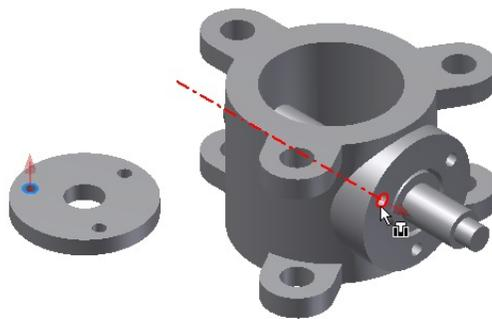

Figure 9-66 Selecting the edges to apply the **Insert** constraint
6. Choose the **Insert** button from the **Type** area. Select the circular edge of one of the smaller holes on the top face of the Retainer as the first edge, see Figure 9-66.
7. Select the circular edge of one of the smaller holes on the front planar face of the circular feature on the Body to apply the constraint, see Figure 9-66. Next, choose the **Apply** button.